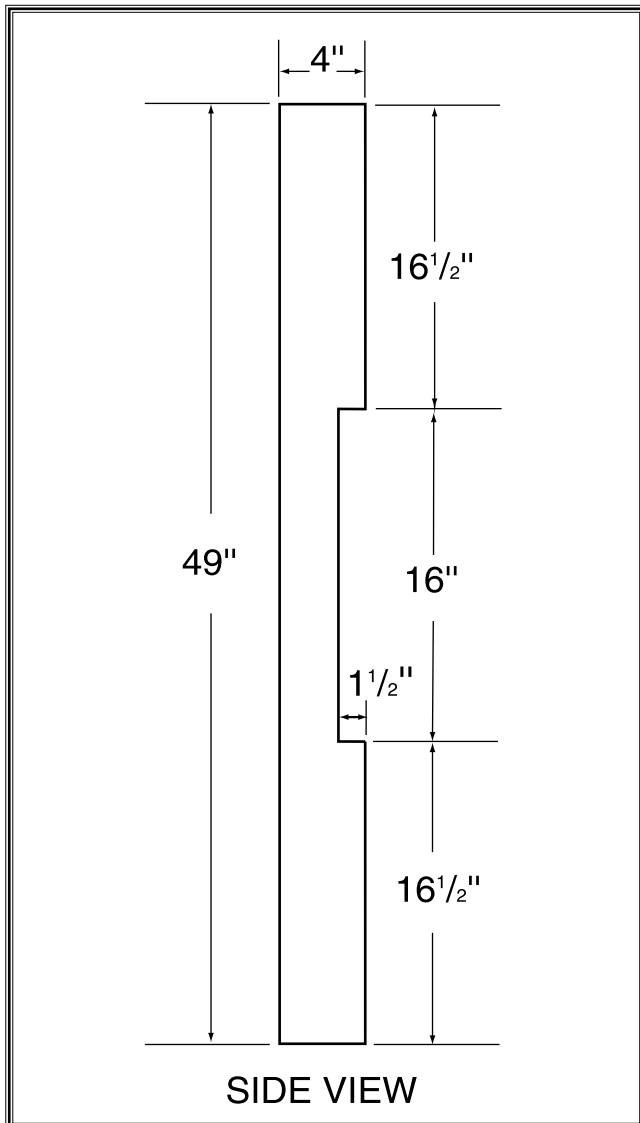

Figure 33. Dimensions of coplanarity gauge.
1. The body of the bandsaw does not allow you to place a regular straightedge across both wheels at the same time. We’ve found a simple way to overcome this situation. All you need is a 49" x 2" x 4" board and a saw. After you are certain that the board is straight (this can easily be checked with a 4' level), simply cut a 1 1/2" notch out of the center. Refer to **Figure 33** for more details on how to make this gauge.